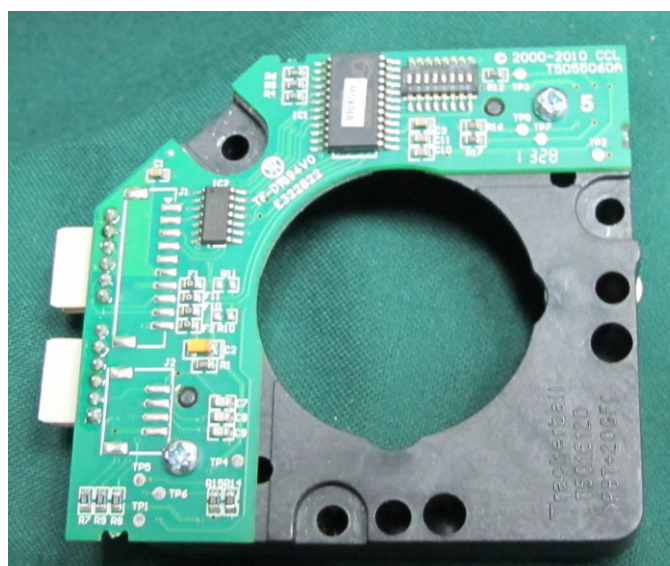

Figure 8-94 Trackball Board and Housing Removed
- 8.) Lift the Trackball Board and Housing assembly up and remove - Figure 8-94.